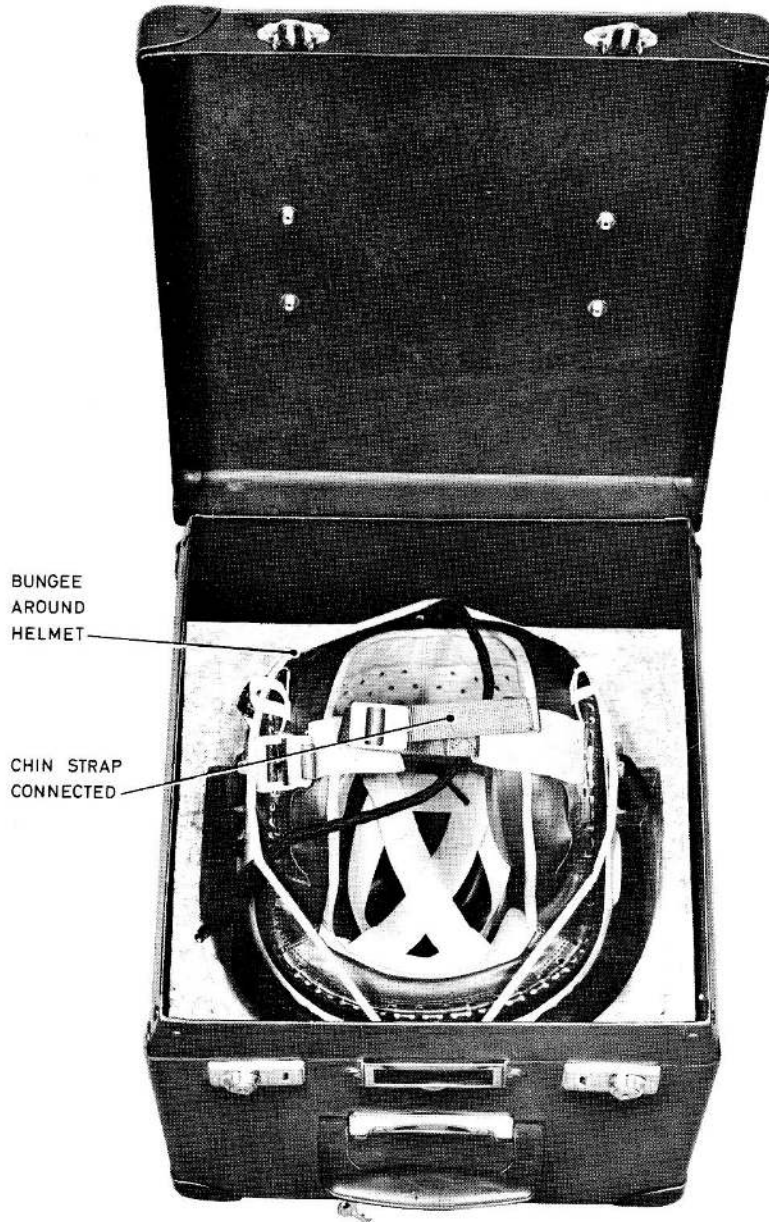

Fig. 5 Helmet stowage
- (1) Disconnect the chin strap quick-release buckle.
- (2) Turn the toggle buckles to the rear, releasing the neck strap.
- (3) Using the loops and pressing back the ear capsules as for donning, pull the helmet off the head.
- (4) After use the helmet should be wiped and hung up to dry.
- (5) When thoroughly dried and aired, stow the helmet in the case provided (*fig. 5*). The helmet is placed crown downwards in the case and secured by passing the bungee straps round the outside, rigid part of the helmet (not over the top).